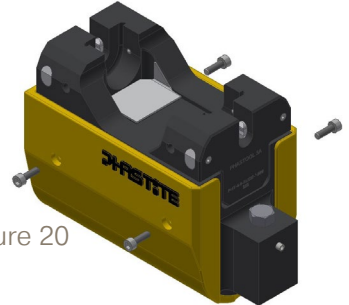

Figure 20
3. Install the retaining screws to secure the boot to the tool using a 3mm Allen key (Figure 20).